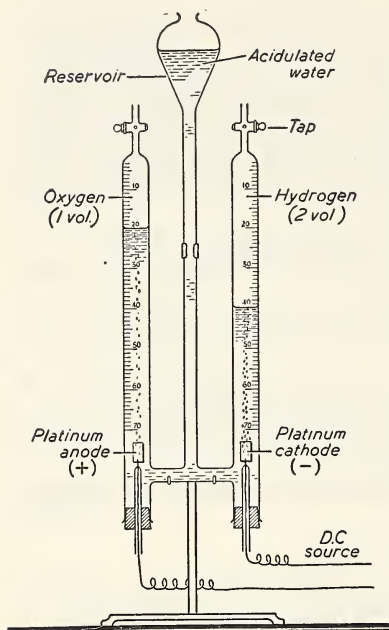

Fig. 42. The electrolysis of water using a Hoffman apparatus.
1. A Hoffman apparatus is used as shown in Figure 42. To about 250 ml. of water add about 5 ml. of concentrated sulphuric acid (*Technique 3*). With both stop-cocks open, slowly pour the acidulated water into the reservoir until the two outer tubes are filled up to the taps. Avoid getting any liquid in the jets above the taps. Close the taps, and add enough acidulated water to half fill the reservoir. Paste a paper label on the reservoir so that its upper edge marks the surface level of the liquid it contains. Connect the platinum electrodes to a source of *direct* current. If 3 dry cells in series are used, the electrolysis should be started before the class period to ensure the accumulation of enough gases for testing. If a D.C. source of higher voltage (e.g., 110 volts) is used, a lamp or some other resistance must be connected in series in the circuit. The circuit, which includes a switch and the Hoffman apparatus, should be carefully examined and the direction of the current determined, before beginning the experiment.